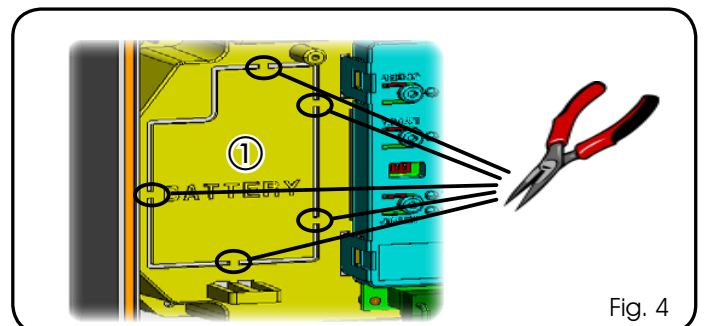

Fig. 4
This support (Fig.4 ref.①) was pre-moulded to permit the battery housing to be opened.